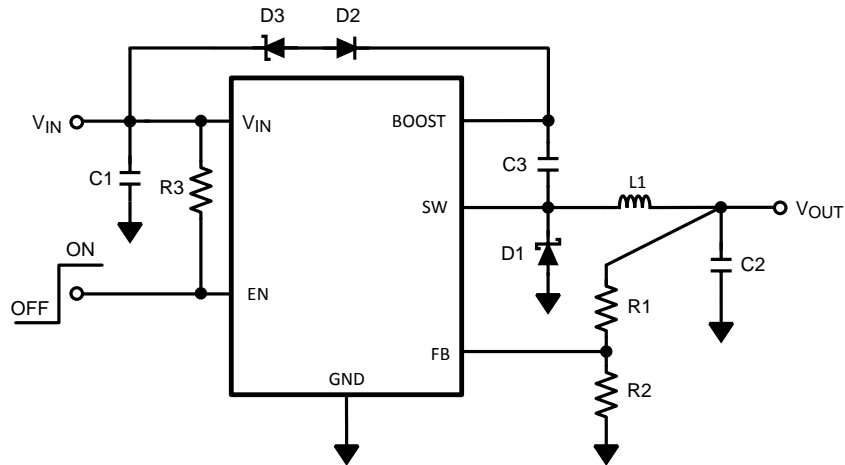

**Figure 26. LM2736X (1.6MHz)**
**Table 3. Bill of Materials for Figure 26**